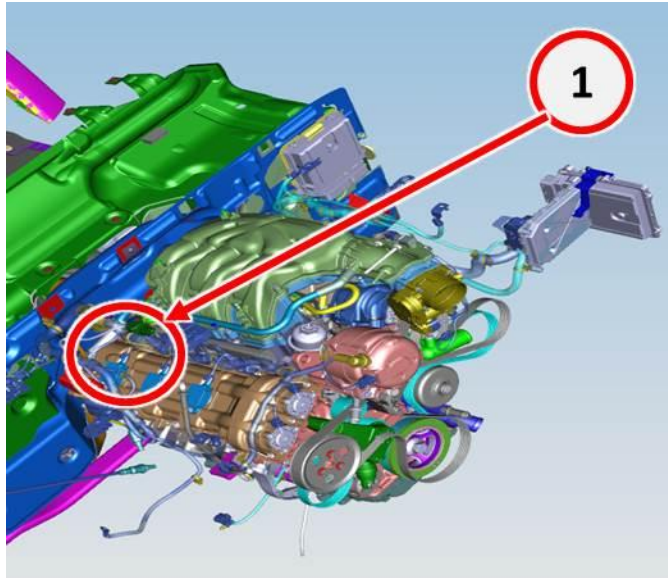

Fig. 1 Underhood Engine View
2. Locate the engine wire harness tower clip on the right side of the engine near the camshaft position sensor. See (Fig. 1).